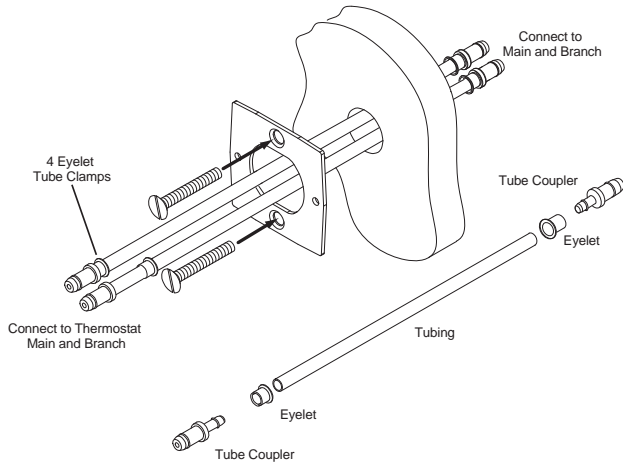

Figure-2
2. Connect the assembly by inserting the tube couplers into existing tubing in the wall (Figure-2). Note which connection is Main and which connection is Branch.